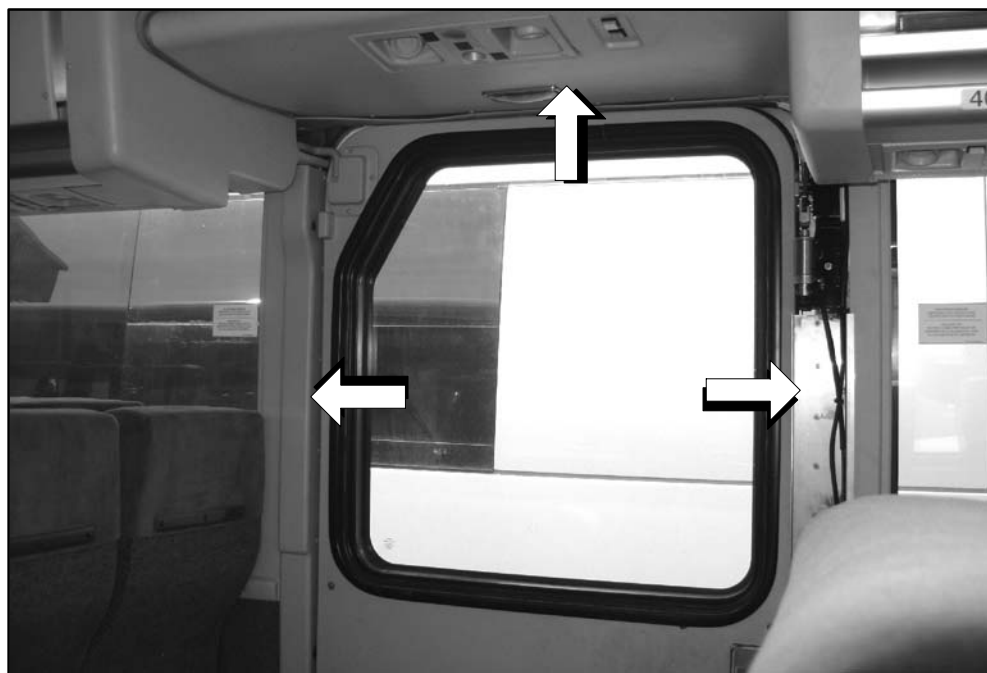

Figure 2.
3. To access the installation area, remove the front cover –post, rear cover –post and service module cover assy (refer to Figure 2). Place aside to be re-installed at a later step in this procedure.